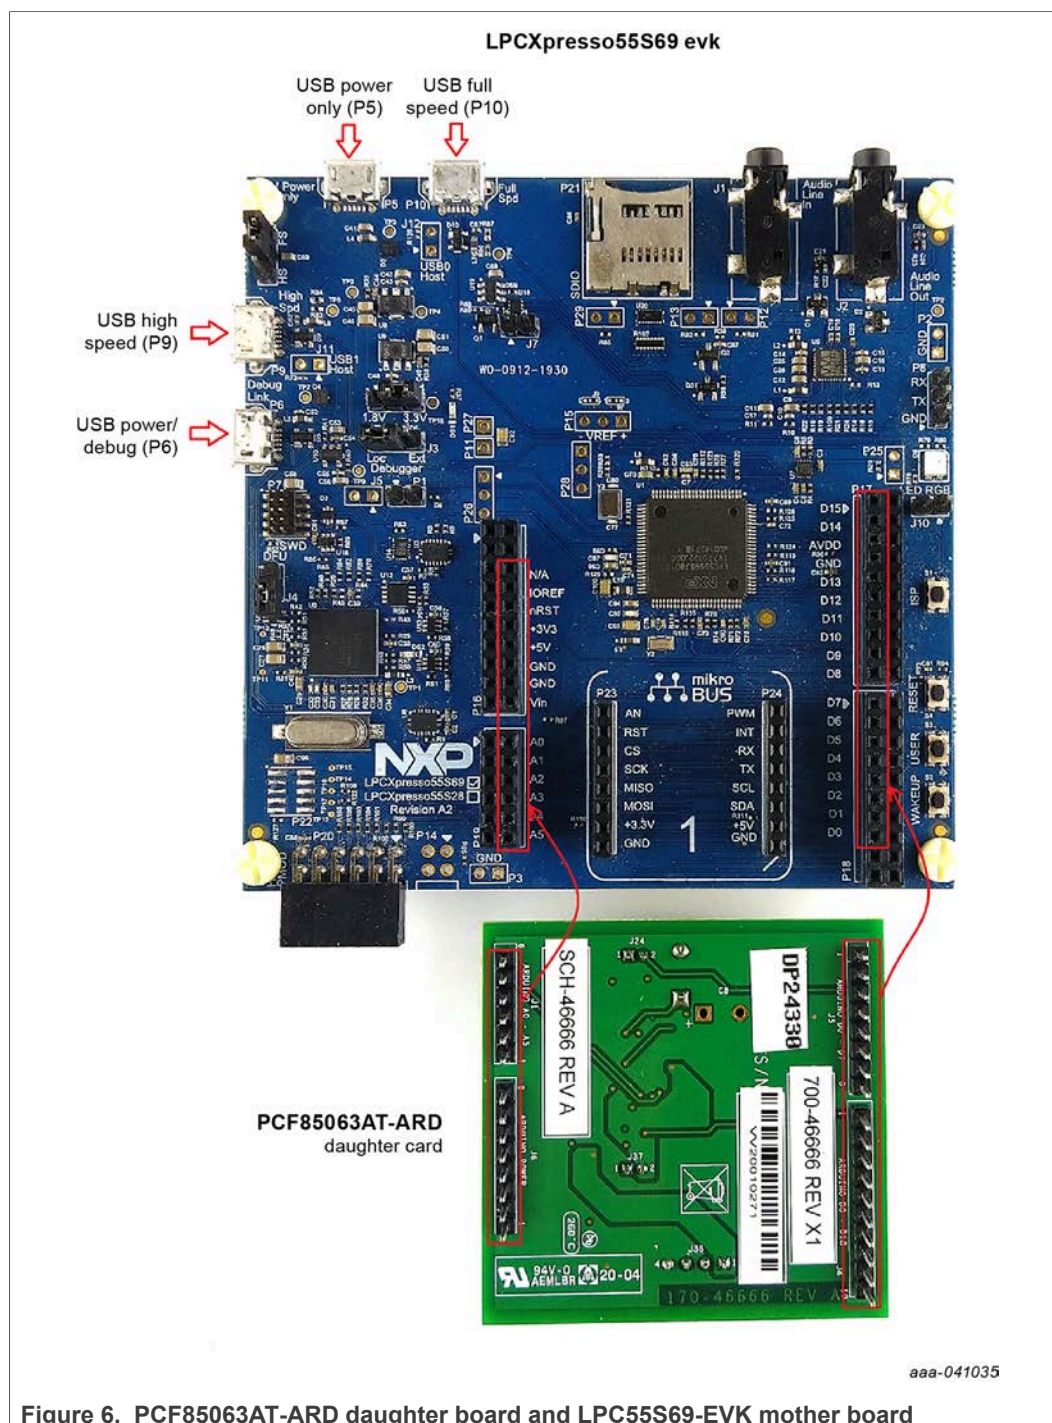

Figure 6. PCF85063AT-ARD daughter board and LPC55S69-EVK mother board
Figure 6 shows the required hardware for operation of the PCF85063AT-ARD and LPC55S69-EVK board.
1. Insert the PCF85063AT-ARD daughter card to P16 – P19 connectors located on LPC55S69-EVK development board (see the marked pins of P16 – P19, Figure 6).